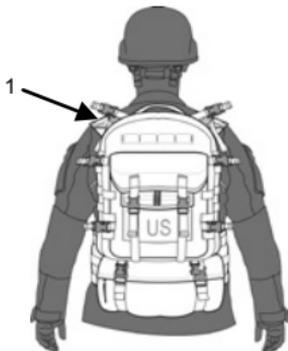

Figure 4. Assault Pack Load.
**Assault Pack Load.** Consists of the FLC or TAP with pouches, Waist Pack, and Assault Pack (Figure 4, Item 1). The Waist Pack is attached to the bottom of the Assault Pack.